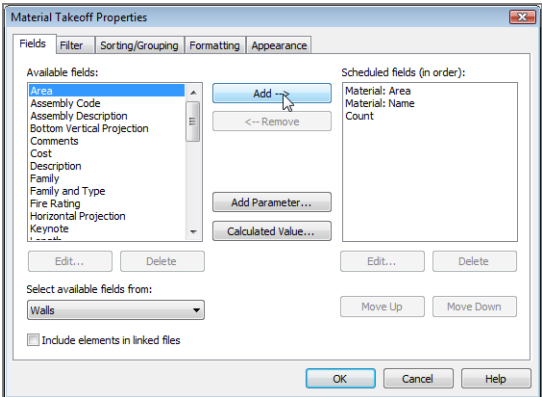

FIGURE 11.27: Adding the materials
4. In the next dialog, add the following fields (see Figure 11.27).